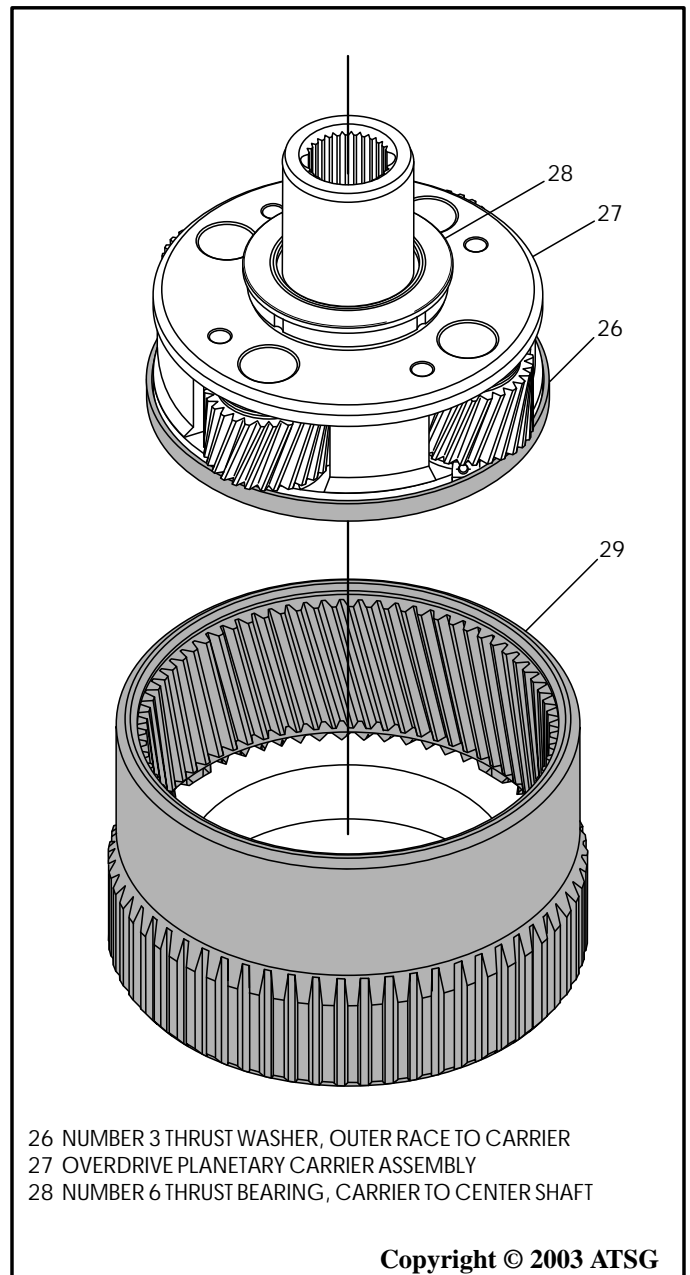

Figure 145
10. Install completed overdrive planetary carrier into the pre-assembled overdrive ring gear, as shown in Figure 145, by rotating into position until fully seated.